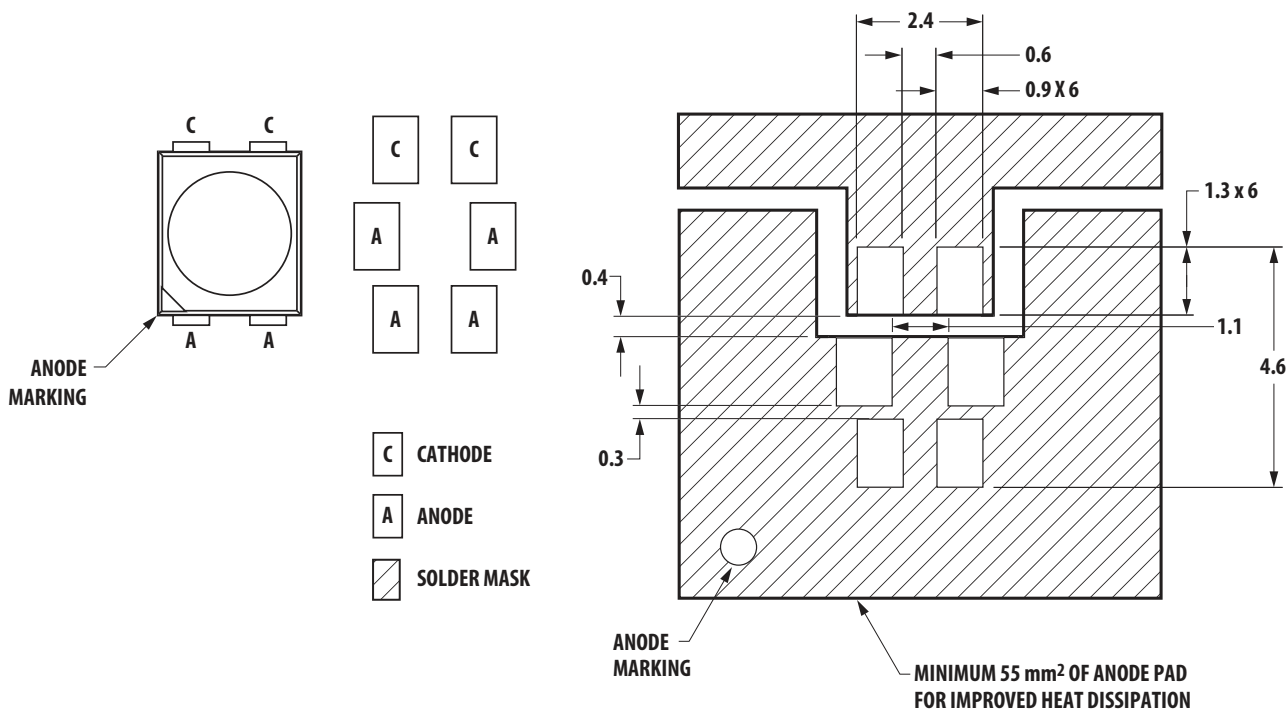

Figure 13. Recommended soldering pad pattern
2. LEAD POLARITY AS SHOWN IN FIGURE 13.